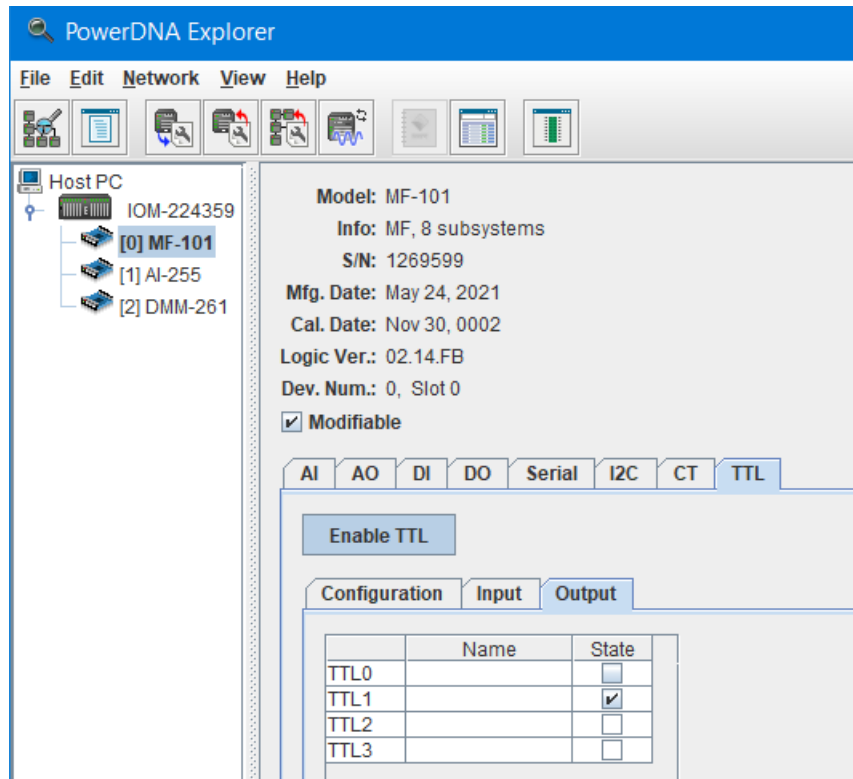

Figure 3-22 PowerDNA Explorer TTL Tab, Output Subtab
3.9.3 Write TTL Data The TTL Output subtab (Figure 3-22) contains the following columns: